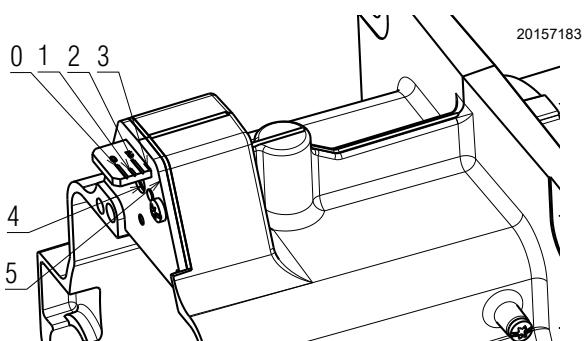
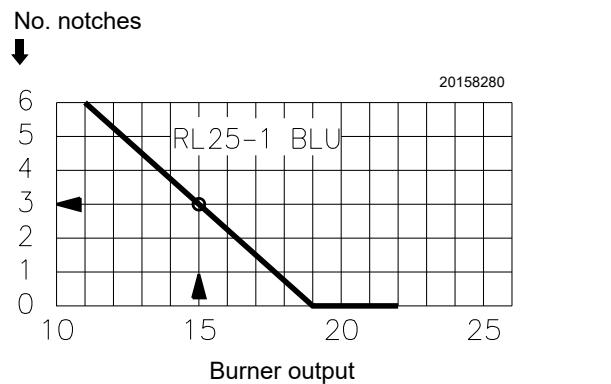

Fig. 14
Fig. 15
- Turn the screw 4)(Fig. 14) until the notch indicated by the diagram (Fig. 15) lines up with the front part of the flange 5)(Fig. 14).
- The diagram (Fig. 15) indicates that for an output of 15.6 kg/h the RL 25/1 BLU burner requires an adjustment of the combustion head to about 3 notches, as shown in Fig. 15.